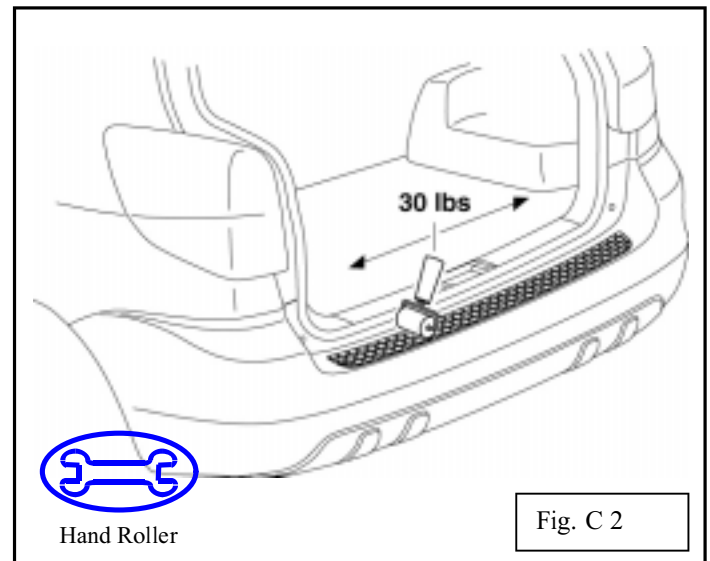

Fig. C 2
- ➔ 4. Using the hard roller, roll around the perimeter of the part with at least 30 lbs. of pressure to ensure complete adhesion of the acrylic foam tape to the bumper surface. See Fig. C 2.